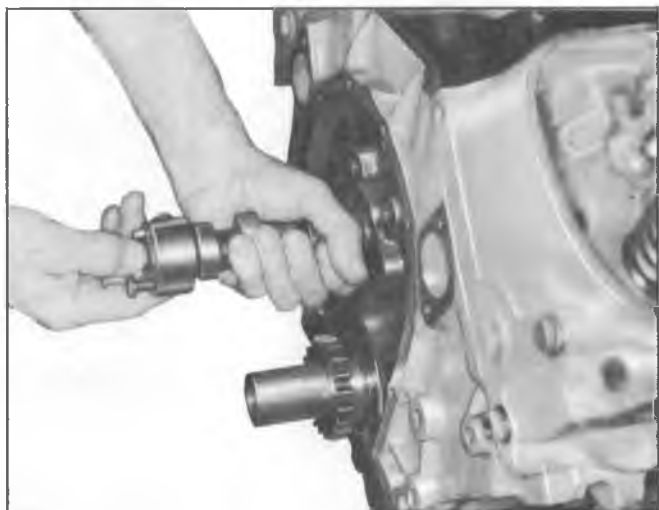

Fig. 5—Installing Camshaft
- a. Install two 5/16-18 bolts in camshaft bolt holes, then lubricate camshaft journals with engine oil and install camshaft, being careful not to damage bearings (fig. 5). Remove the two 5/16- 18 bolts.